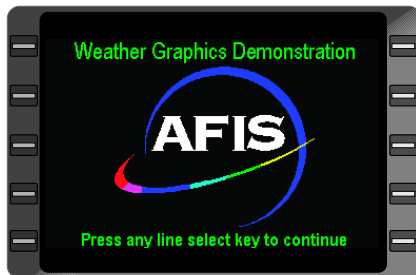

Figure 7-151
5. At the **WEATHER GRAPHICS DEMONSTRATION** page press any LSK key or the **ENTER** key to initialize the demo mode. See Figure 7-151.